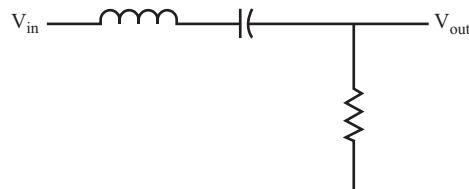
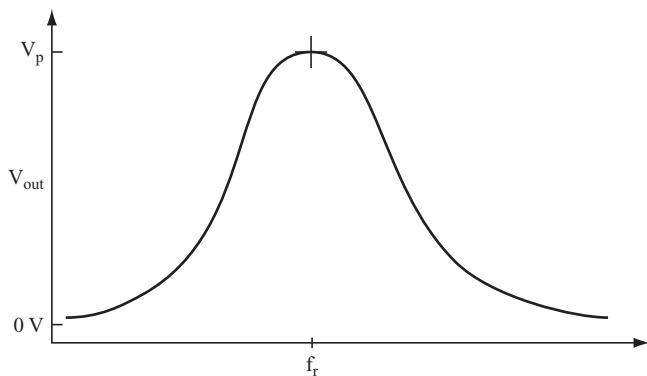

FIGURE 7.3
FIGURE 7.4
- 5** For the circuit shown in Figure 7.3, the output voltage is the voltage drop across the resistor.
If you plot V_{out} against frequency on a graph for the circuit shown in Figure 7.3, the curve looks like the one shown in Figure 7.4.
Under ideal conditions, if X_C were 10.6 ohms, what value of X_L results in a net reactance (X) of 0 for the circuit shown in Figure 7.3? _____
- 7** Calculate the resonant frequency for the circuit shown in Figure 7.3 using the capacitor and inductor values given in the following questions.
- 8** Calculate the resonant frequency for the circuit shown in Figure 7.3 using the capacitor and inductor values given in the following questions.